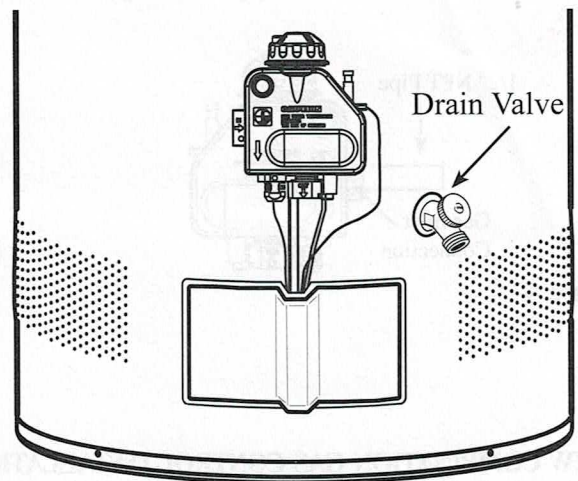

Figure 2
- 2. DRAINING THE WATER HEATER:** Shut off the inlet water supply to the water heater. Connect a garden hose to the water heater's drain valve and route to a drain or suitable draining area. Open a hot water faucet to allow air to flow into the water heater tank then open the water heater's drain valve. See Figure 2.